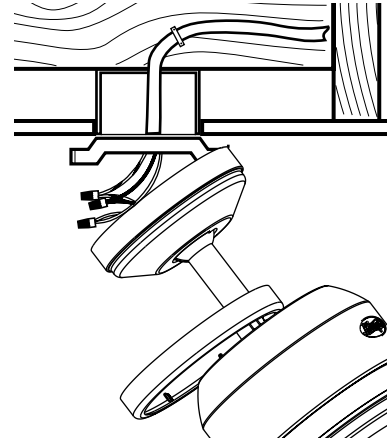

Figure 4c - Connecting the Wires
1. Connect the wires as shown in Figure 4c and 4d. To connect the wires, twist the bare metal leads together. Place a wire nut over the intertwined length of wire and twist clockwise until tight as shown.